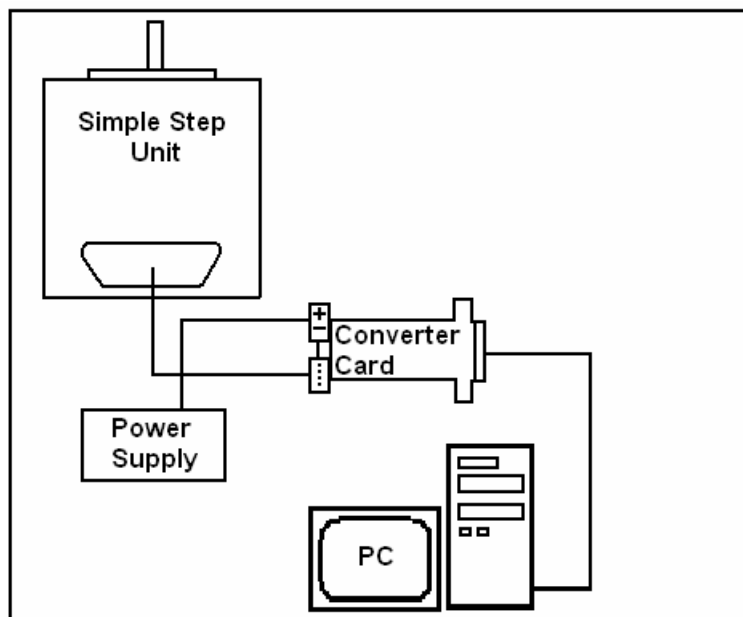

Figure 3.1
5. Turn on your Power Supply (See Figure 3.1 below).